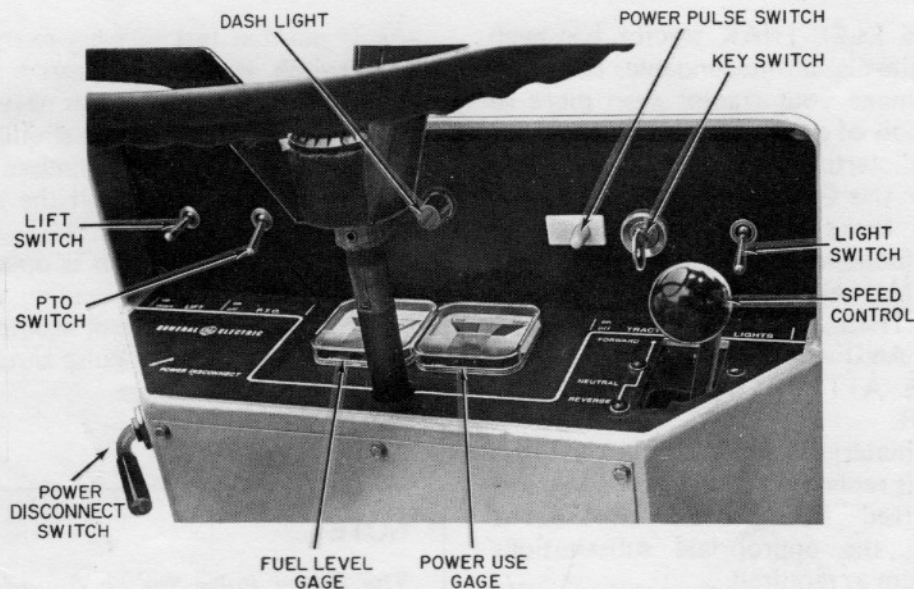

Figure 6. Control Panel
- A. Figure 1. Power pulse switch should be referenced to the left of the tractor key switch on the dash panel. This is shown in Figure 6 of this Addendum.
F. Page 7: Replace Figure 6 with: